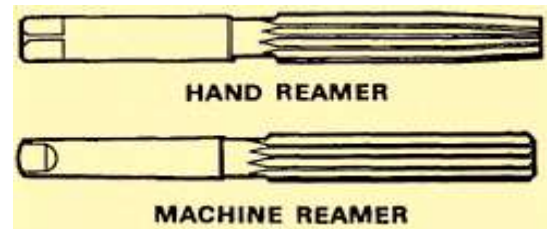

Figure 4-43. Hand and machine reamers.
**Procedures for Reaming:** To drill and ream a hole, the setup cannot be changed. For example, drill the hole (slightly undersized) and then ream the hole before moving to another hole. This method will ensure that the reamer is accurately aligned over the hole. If a previously drilled hole must be reamed, it must be accurately realigned under the machine spindle. Most hand and machine reamers have a slight chamfer at the tip to aid in alignment and starting (Figure 4-43).